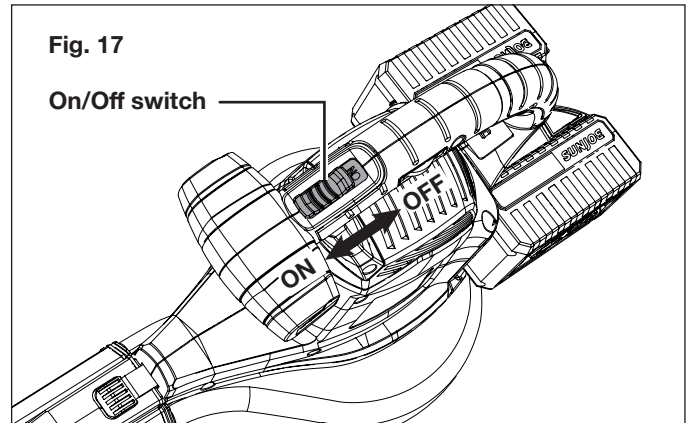

Fig. 17
2. To start the cordless blower + vacuum + mulcher, slide the ON/OFF switch forward to show the ON mark (Fig. 17).
3. To stop the unit, slide the ON/OFF switch backward until the OFF mark appears (Fig. 17).